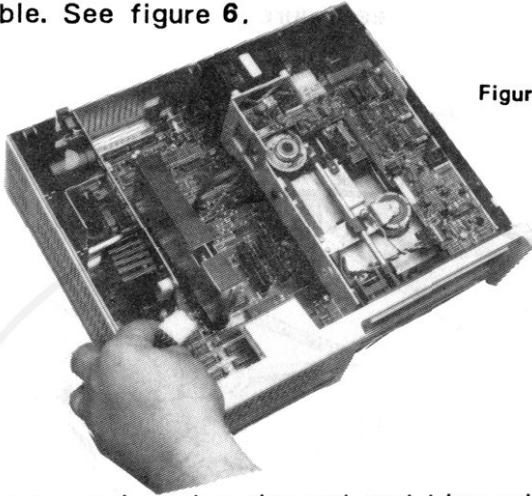

Figure 6
- 7 Locate and unplug the black flat-cable which is attached to the PCjr power supply. This is the diskette drive power cable. See figure 6.